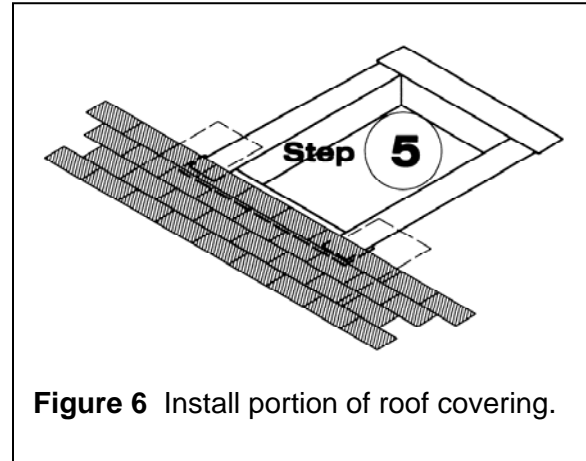

Figure 6 Install portion of roof covering.
Step 5. Install a portion of roof covering below the skylight sill curb. Coordinate position of roofing with final layout (see Figure 6).